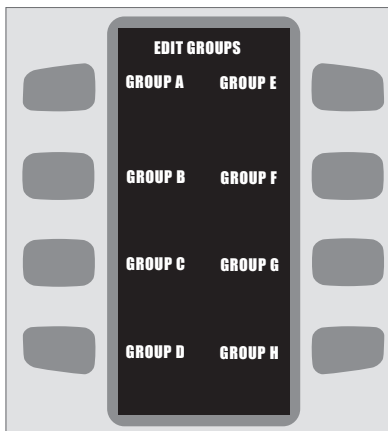

FIGURE 11: Select Group
Most NGC (Tornado) oven models contain 128 unique recipes. The display shows two (2) pages each with eight (8) recipe groups. Each recipe group contains eight (8) recipes. See Figures 11 and 12.
2. Enter the access code “9” and set the CCSP. The screen displays the first set of eight (8) recipe groups. To access the second set of eight (8) recipe groups, press either the UP or DOWN key.
3. Select the recipe group that contains the individual recipe you wish to alter. Select the recipe you wish to alter by pressing the soft key corresponding to the recipe item. Figures 11 and 12.